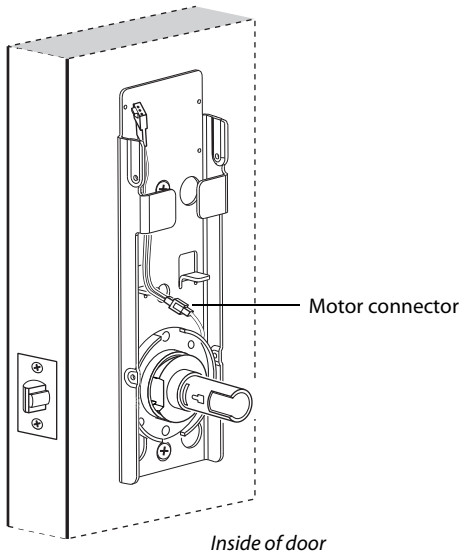

Figure 16 Making the motor connection
- 1 From the inside of the door, connect the motor connector from the chassis to its mating connector on the wire harness, as shown in Figure 16.